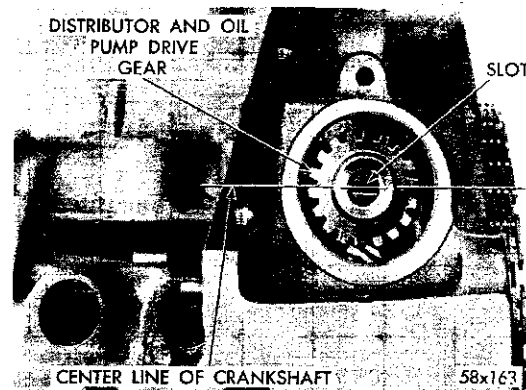

Fig. 35—Distributor Drive Gear Installed
- (1) Rotate the crankshaft until No. 1 cylinder is at top dead center on the firing stroke.
- (2) When in this position, the straight line on the vibration damper should be under "O" on the timing indicator.
- (3) Coat the shaft and drive gear with engine oil. Install the shaft so that after the gear spirals into place, it will index with the oil pump shaft, so that the slot in top of the drive gear will be parallel with the center line of the crankshaft, as shown in Figure 35.